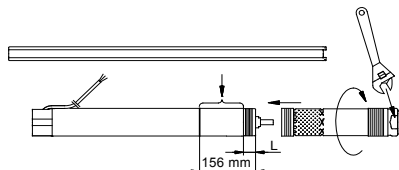

Fig. 6
1. Place the motor horizontally in a vice and tighten it. See fig. 6.
A spanner may be used on the clamping faces of the pump part. See fig. 6.